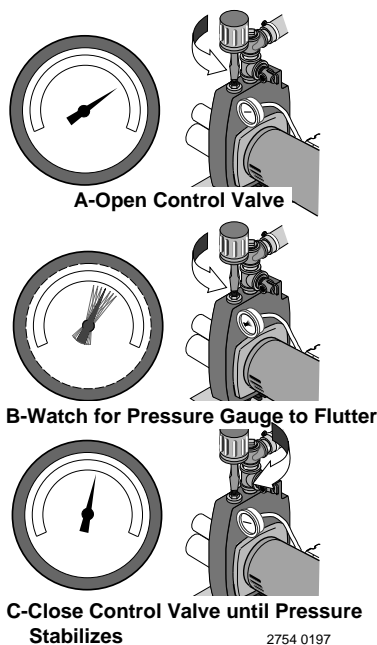

Figure 15: Set Control Valve
- Step 5. When pressure has built up and stabilized at about 50 PSI, slowly open the control valve (see Figure 15) and let the pressure drop until the pressure gauge needle starts to flutter. When the needle flutters, close the valve just enough to stop the flutter (see Figure 15). Your pump is now operating at its most efficient point.